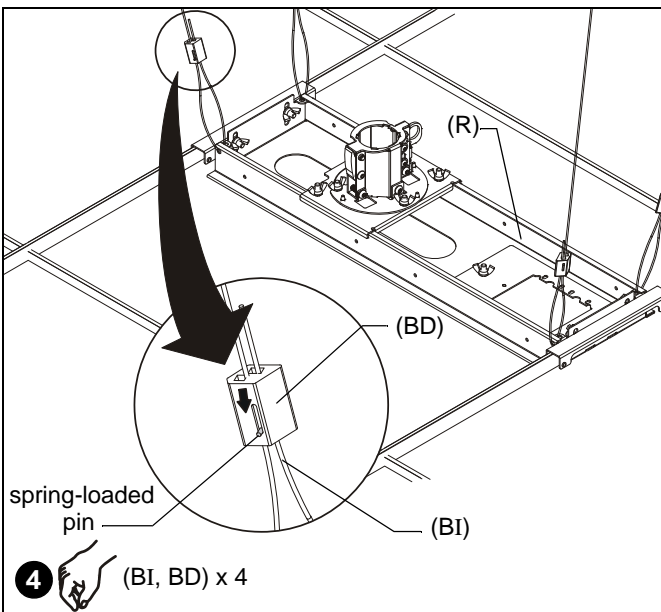

Figure 16
4. Thread each cable (BI) completely through cable lock (BD), corresponding hole in corner of ceiling plate assembly (R), and completely through opposite side of cable lock (BD). (See Figure 16)
5. Adjust cable tension until ceiling plate assembly (R) is supported *entirely* and *evenly* by all four support cables, but not so tight as to distort ceiling tile framework.